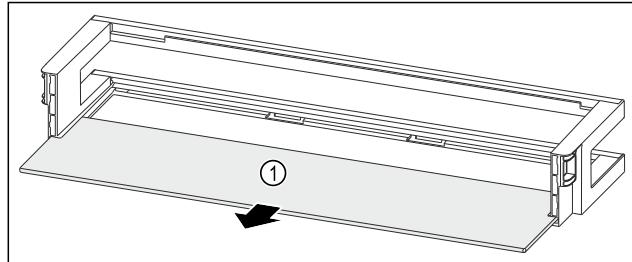

Fig. 142 Door rack with shelf
- Remove the shelf Fig. 142 (1).